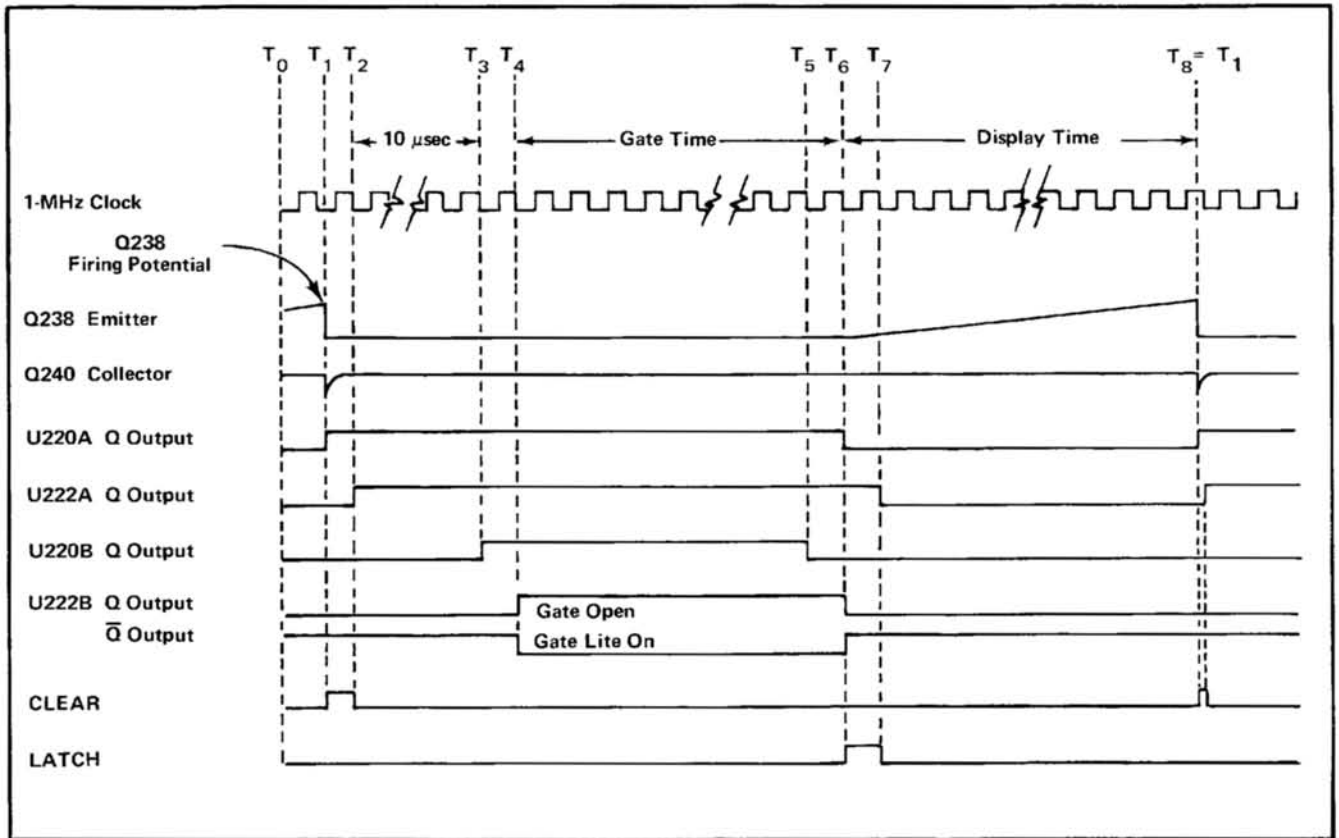

Fig. 2-2. Time Base generator normal gating mode ladder diagram.
Assume that the  $T_0$  conditions are as given in Fig. 2-2. The Q outputs of U220A, U222A, U220B, and U222B are all LO. Q230 is off and the emitter of Q238 rises as C235 charges. At  $T_1$ , Q238 reaches its firing potential and discharges the capacitor. This results in a short-duration LO pulse on the direct-set input (pin 2) of U220A, forcing its Q output HI and its  $\overline{Q}$  output LO. With two HI inputs on NAND gate U230A, its output goes LO and the output of NOR gate U230C goes HI, producing the CLEAR and  $\overline{\text{CLEAR}}$  control signals. The next HI-to-LO transition from the 1-MHz clock ( $T_2$ ) toggles U222A, causing its Q output to go HI and its  $\overline{Q}$  to go LO. With a LO applied to one of its inputs, U230A reverts to its original condition, terminating the CLEAR and  $\overline{\text{CLEAR}}$  pulses. The DDU's then start counting from their 0999999 reset condition.
At the end of a 10-microsecond delay (time for the DDU's to count the first digit, plus a propagation delay), a negative transition from the DDU's via the MEASUREMENT INTERVAL switch toggles U220B. This corresponds to  $T_3$  in Fig. 2-2. U220B's Q output goes HI and its  $\overline{Q}$  output goes LO. The next negative transition from the 1-MHz clock ( $T_4$ ) toggles U222B, causing its Q output to go HI (GATE open) and its  $\overline{Q}$  output to go LO (supplying current to the front-panel GATE indicator LED, CR225). The GATE signal is also applied to the base of Q230, saturating the transistor and preventing C235 from charging.
The GATE remains open (HI) for the time duration selected by the MEASUREMENT INTERVAL switch. At the end of this time, which corresponds to  $T_5$  in Fig. 2-2, another negative transition from the DDU's toggles U220B. U220B's Q output goes LO and its  $\overline{Q}$  output goes HI. The next negative transition from the 1-MHz clock ( $T_6$ ) toggles